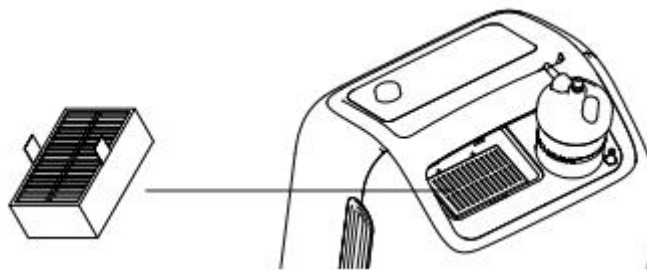

Figure 7
1. Before operating your unit always checks to be sure the air filter (located on the top of your unit,Figure 7) is existed .Proper replace of this filter is discussed in the Caring for Your Concentrator section on page 18.